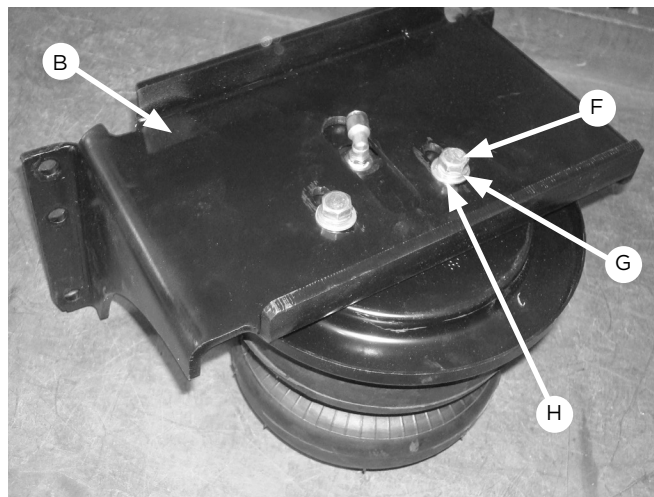

Fig. 5
2. Set the upper brackets (B) onto the top of the air spring assemblies and attach them to the air springs with 3/8" hex cap screws (F), 3/8" lock washers (G) and 3/8" flat washers (H) (Fig. 5). Leave finger-tight at this time.